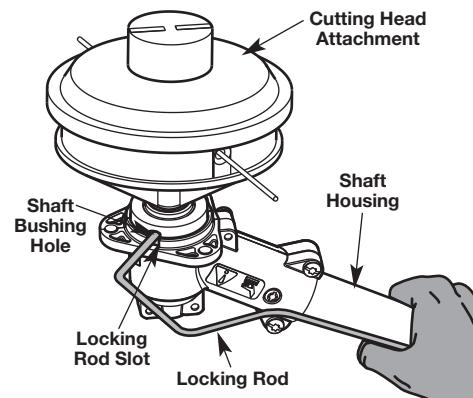

Fig. 16
- While holding the locking rod, attach the cutting head to the output shaft by screwing it counter-clockwise until it is fully seated (Fig. 16).